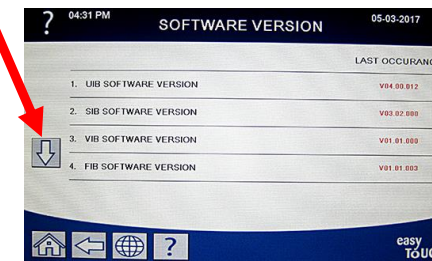

Figure 22
20. Press the down arrow button (see Figure 22) on the next page.
21. The **GATEWAY SOFTWARE VERSION** is **61.99.051** (see Figure 22) on the next page, skip to Appendix A. If the **GATEWAY SOFTWARE VERSION** is **NOT 61.99.051**, proceed to STEP 4 in the next section.
16. Press the down arrow button (see Figure 22).
17. The **GATEWAY SOFTWARE VERSION** should be **61.99.051** (see Figure 22). If not, repeat steps 1-8 of this section. If after two tries of loading the software and the version below is **NOT** displayed, go to STEP 5 (Troubleshooting) on the last page.